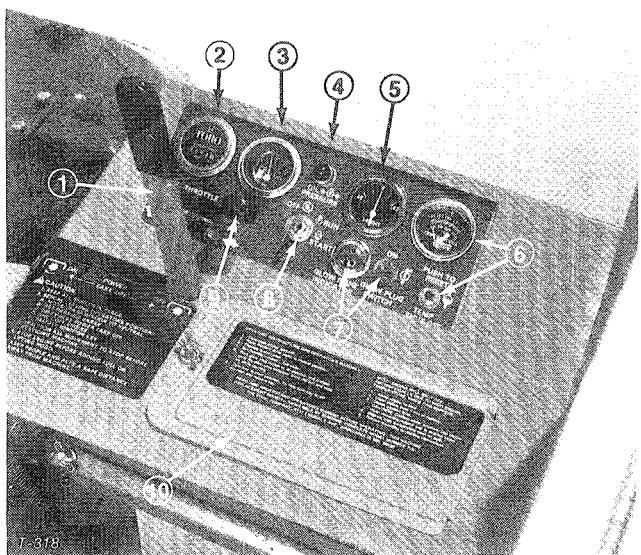

Figure 22
**PTO Lever** (Fig. 22)—The PTO lever has two positions: ON (engage) and OFF (disengage). Slowly push PTO lever fully forward to ON position to start the implement or cutting unit blades. Slowly, pull lever backward to OFF position to stop implement operation. The only time PTO lever should be in the ON position is when implement or cutting unit is down in operating position.
**Hour Meter** (Fig. 22)—The hour meter registers accumulated hours of engine operation. Use the hour meter to determine intervals for service maintenance and lubrication.
**Fuel Gauge** (Fig. 22)—Indicates quantity of fuel remaining in fuel tank.
**Oil Pressure Warning Light** (Fig. 22)—The oil pressure warning light glows and a buzzer sounds when oil pressure in engine drops below a safe level. If low oil pressure ever occurs, stop engine and determine the cause. Repair the damage before starting the engine again.
**Ammeter** (Fig. 22)—Ammeter shows charge rate of the battery by the alternator. When engine is running, there usually is a slight charge, unless engine is idling slowly. Needle points to 0 when battery is fully charged. By contrast, alternator is not charging the battery when needle points to (-) negative side of ammeter. If this happens, repair the charging system to prevent discharge of the battery.
**Temperature Switch/Gauge and Reset Button** (Fig. 22)—The temperature switch/gauge registers the temperature of the coolant in the cooling system. If temperature of coolant gets too high the engine will shut off automatically. When this happens, rotate ignition key to OFF. Automatic shut-off of the engine usually results from debris on front of screen or radiator, which reduces air flow. After cleaning outside of screen and radiator or repairing some other damage, press the reset button and start the engine.
**Glow Plug Switch and Indicator** (Fig. 22)—Use to preheat engine cylinders before and during starting procedures. Push switch lever upward and hold while watching indicator. Indicator glows red when sufficiently heated. Length of time necessary to preheat cylinders should be determined by atmospheric temperature; refer to Starting/Stopping Engine.
**Key Switch** (Fig. 22)—The key switch, which is used to start and stop the engine, has three position: OFF, RUN, and START. Rotate key clockwise to the START position to engage starter motor. When engine starts, release key and it will move automatically to the ON position. To shut engine off, rotate key counterclockwise to the OFF position.
**Throttle Control** (Fig. 22)—Throttle is used to operate engine at various speeds. Moving throttle forward increases engine speed—FAST; backward decreases engine speed—SLOW. The throttle regulates the speed of the cutter blades or other implement components and, in conjunction with traction pedal, controls ground speed of the traction unit.